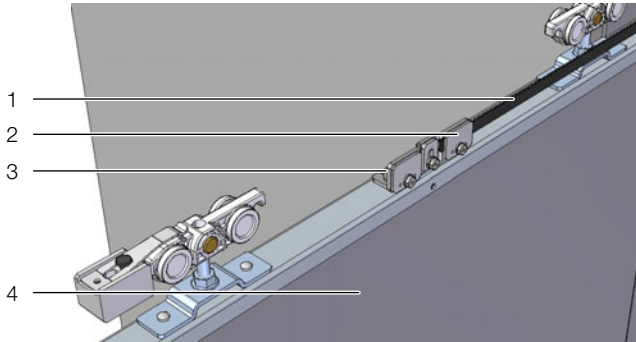

Fig. 34: Fasten the toothed belt to the right-hand door
- Loosen slightly the fastening screws of the toothed-belt connection plate on the right-hand door and fasten one end of the toothed belt at the right (fig. 34). Ensure that at least six teeth of the toothed belt engage.